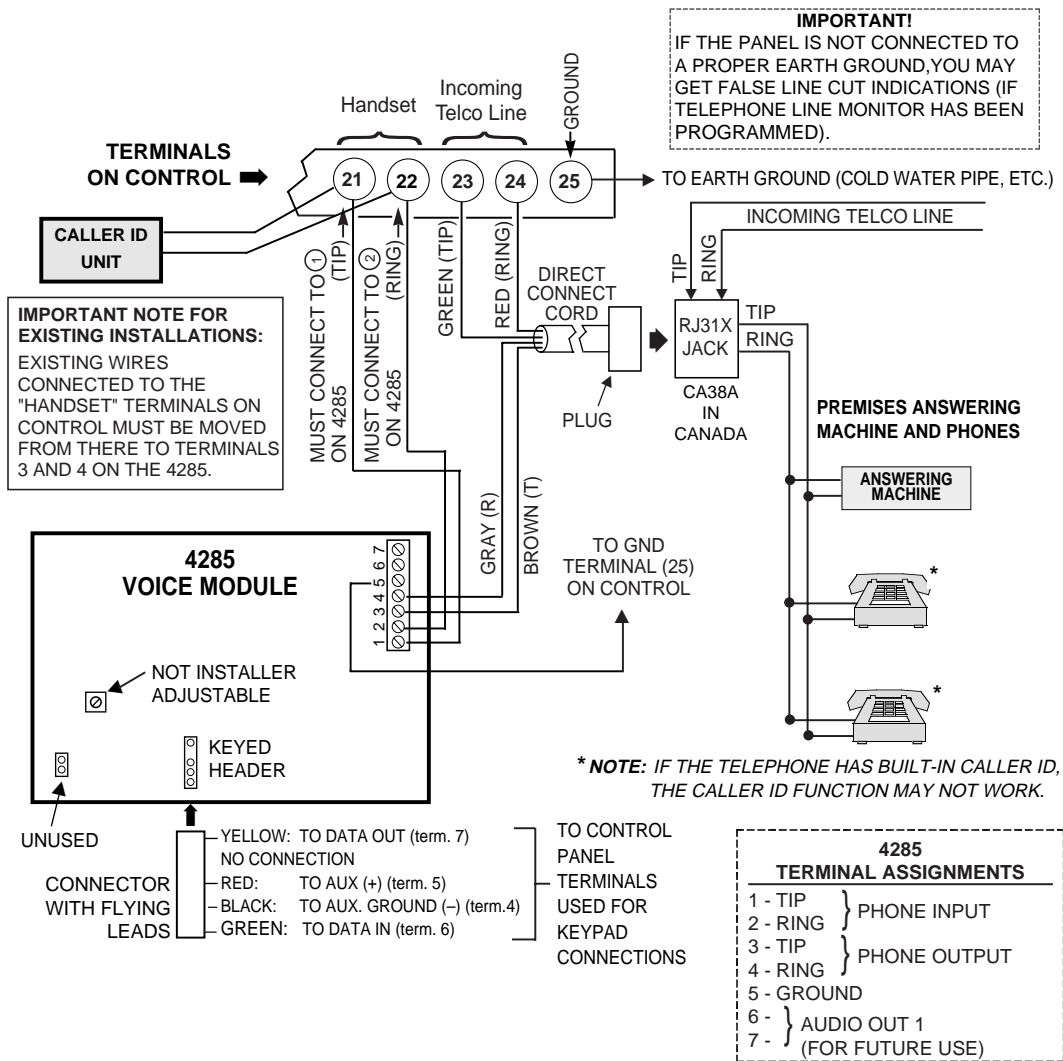

Figure 16. 4285 Phone Module Wiring Connections
1. Make 12V (+) and (-) and data in and data out connections from the Phone Module to the control, using the connector cable supplied with the Phone Module (see Figure 16).